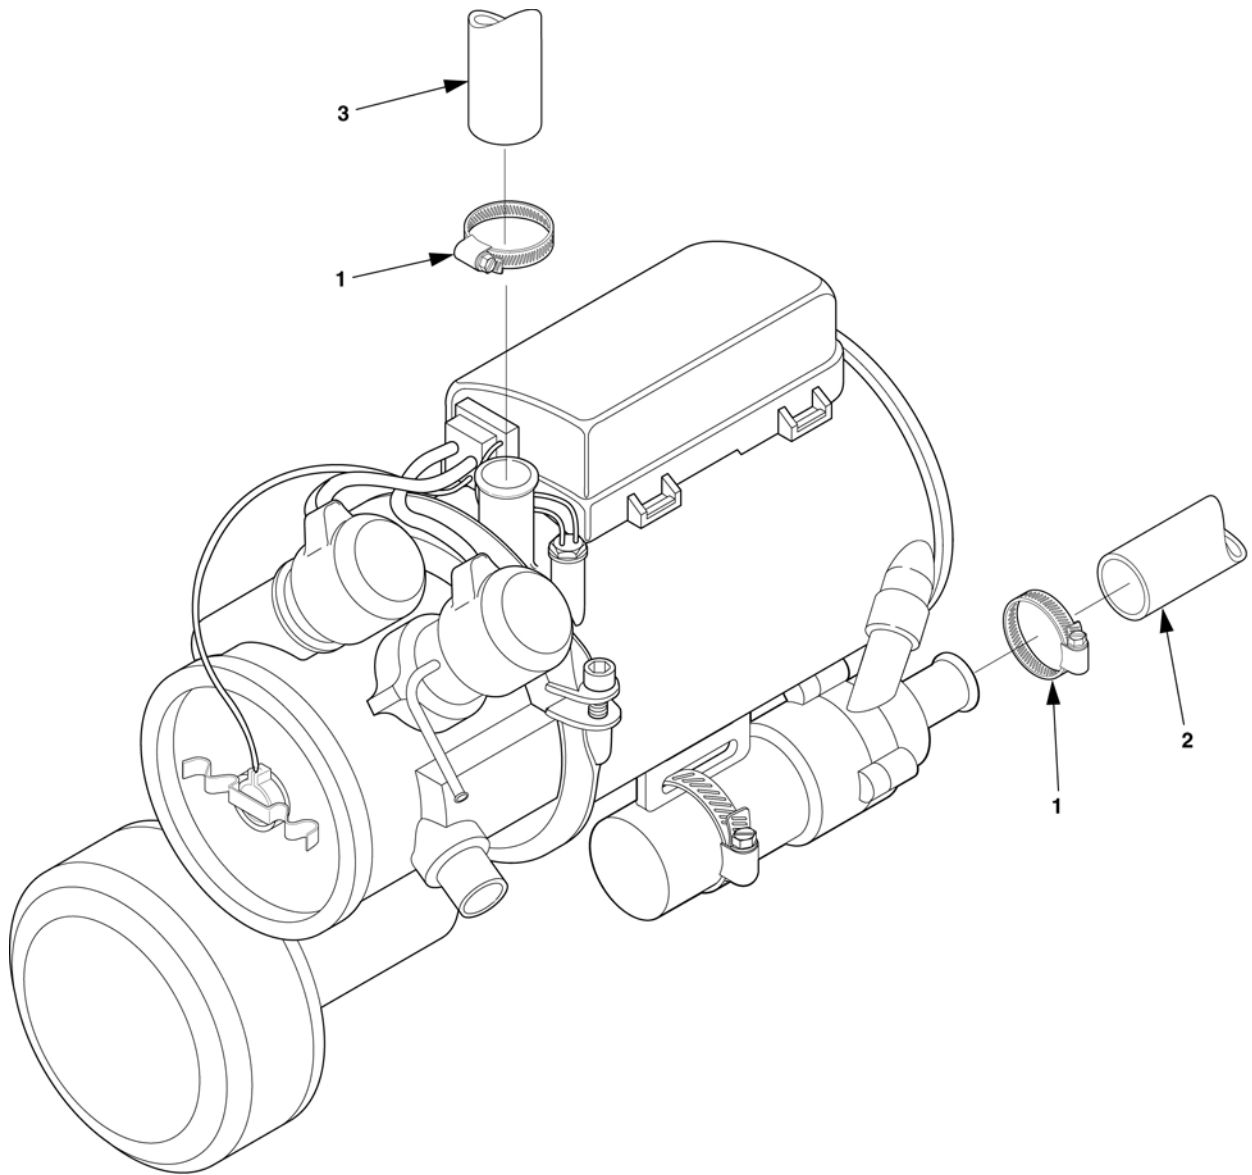

Figure 4-25 Coolant Hose Maintenance.
2. Loosen screw clamps (1), Figure 4-25, to disconnect either or both coolant hoses, inlet (2) or outlet (3) from the heater. Drain any coolant from the hose into a suitable container.
3. Loosen screw clamp (1) to disconnect hose (2 and/or 3) to be replaced from motor block or water pump.